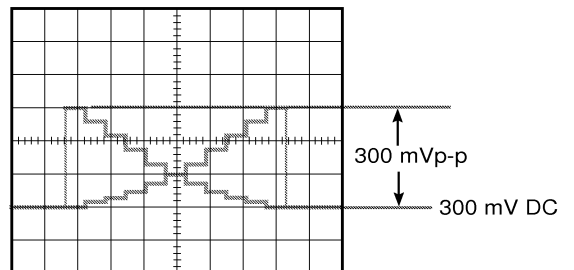

Fig. 4-4
- Adjust R155 so that the Bch Signal level at E301 becomes 300 mV as shown in Fig 4-4.
- Adjust R163 so that the Bch DC Voltage at E301 becomes 300 mV DC as shown in Fig 4-4.